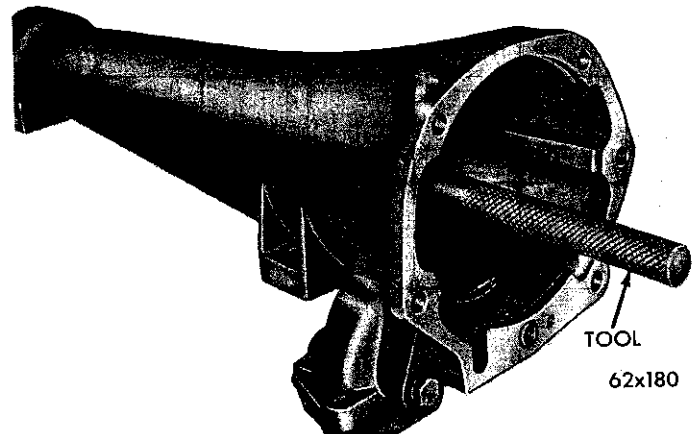

Fig. 37—Removing Output Shaft Bearing
(1) Pry or drive the oil seal out of the extension housing with a long blunt drift. Be sure not to mar the oil seal surface in the housing.
(2) Remove the bearing snap ring from the extension housing. Drive the bearing rearward out of the housing with Tool C-3275 (Fig. 37).